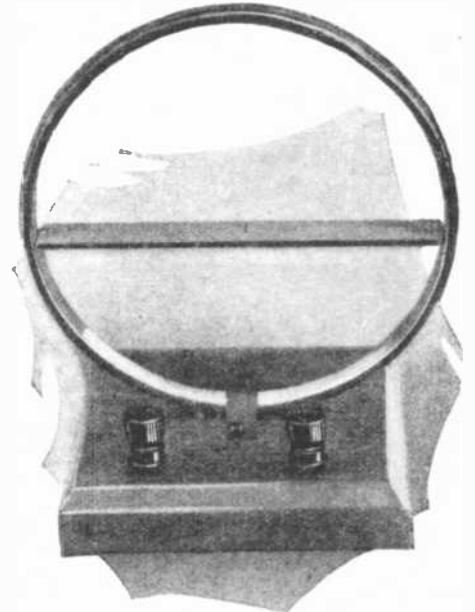
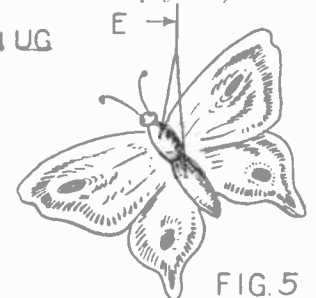

Fig. 4. The coil mounted on the tangent galvanometer base and ready to receive the magnetized needle.
FIG. 5
Now the next step is to mount the ring with its winding as previously described on a little block of wood about four inches square. This is easily done with two small brass wood screws, and a piece of thin brass as shown in Fig. 4. Two binding posts are also arranged and the ends of the wires are scraped and attached to these posts.
head off a pin and stick it in the cork so that the point of the pin protrudes upwards about  $\frac{1}{8}$  of an inch. This pin is going to act as the pivot for the magnetic needle. (See Fig. 5.)
The finished instrument is shown in Fig. 5, and if the experimenter will get a fresh, dry cell and just touch the terminals to the galvanometer coil, he will find the needle will fairly spin, the action is so strong.
Fig. 5. The completed tangent galvanometer, with scale and needle in place. If the scale reads plain angular measurement, a table of natural tangents can be used for their conversion.
Fig. 4. A butterfly swinging by a slender thread from the top of a glass globe keeps swinging back and forth from flower F to flower G and back again for years. The mystery lies in a concealed voltaic pile. The butterfly has a metallic surface which touches a metallized surface on the flowers, each flower being connected to a terminal of the battery.
Now comes the artistic part. The whole base should be made up to imitate nature as nearly as possible, the two flowers (F) and (G) in Fig. 4, being either of uncovered metal or presenting metallic surfaces in contact with the two wires of Fig. 2.
Fig. 5 shows the butterfly as suspended by the delicate thread H of Fig. 4. There must be a metallic surface on the wings of the butterfly so that it will make good contact with the flowers F and G, as it swings back and forth.
Twenty-five strips and 25 washers are then mounted alternately on each bolt, with the mica always on top, as shown in Fig. 4. The two sections are slipped together and the nuts tightened down, as shown in Fig. 5, so as to hold them securely. A clamp, as shown in Fig. 6, may be made to fit over the center, if desired, but it must be insulated from both sections by mica, or fiber, etc.